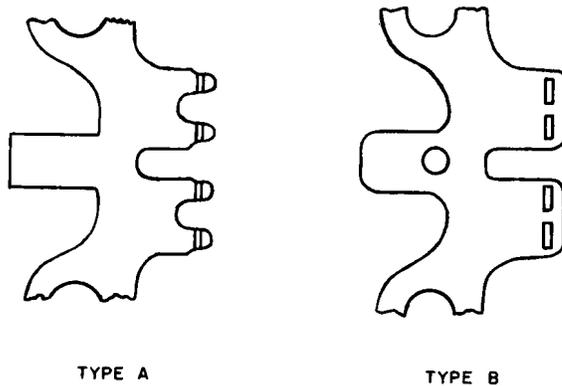

Fig. 5—Crosspoint Contact Multiples Used on Crossbar Switches—Types A and B
(a) **Multiple Strip Contacts on Crossbar Switches:** While the original contacts on this type of multiple were vertical, as shown in Fig. 5(A), the replacement contacts must
be placed in a horizontal position. This requires replacement of the mating contact on the associated bifurcated spring which must be replaced in a vertical position. Replacement of contacts on the type of multiple shown in Fig. 5(B) are placed in the same positions as the original contacts. When replacing bar-type contacts, take care contacts of a mating pair are approximately at right angles to each other.